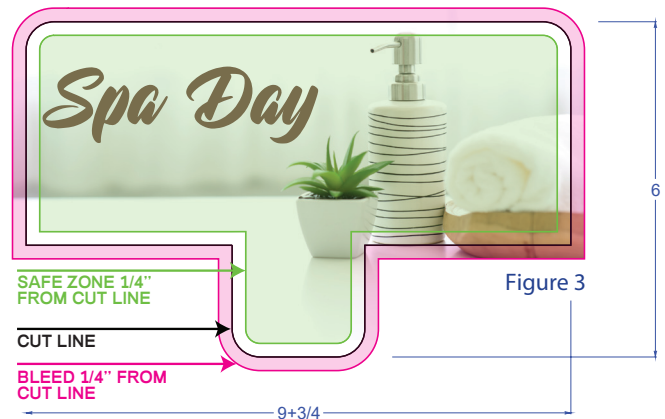

Figure 3
- Remove graphics and or links from tabs or bottoms of structures that do not need to print. (Figure 3)